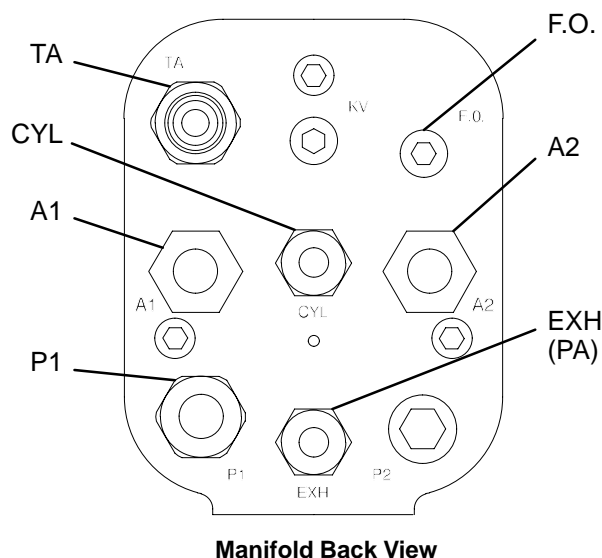

Fig. 19
3. Apply a minimum of 50 psi (345 kPa, 3.5 bar) air pressure to the cylinder air fitting (CYL) to activate the on/off sequence of atomization air (A1), fan air (A2), and fluid (P1). Refer to Fig. 19.